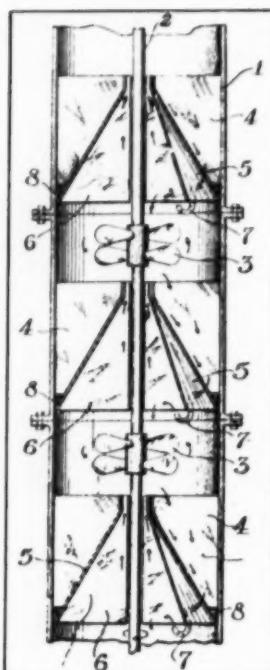
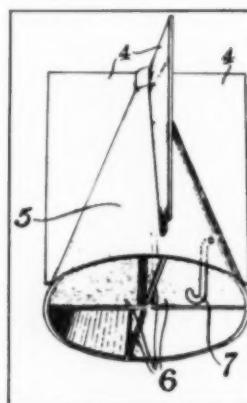

Fig. 13.
Fig. 14.
The vertical mixer-settler shown in Figure 13 has a common shaft for its agitators and the over-all liquid flow is by gravity (9). The two phases settle in a countercurrent manner. The mixing chambers are separated from each other by hollow cones with fins dividing the volume outside and inside into four sections for improved settling. The stirring shaft passes through the apex of these cones with some space left for upward flow of light liquid. The heavy liquid passes down the outside of the cones and through small openings to the next mixing chamber. Figure 14 is a detailed drawing of this cone.